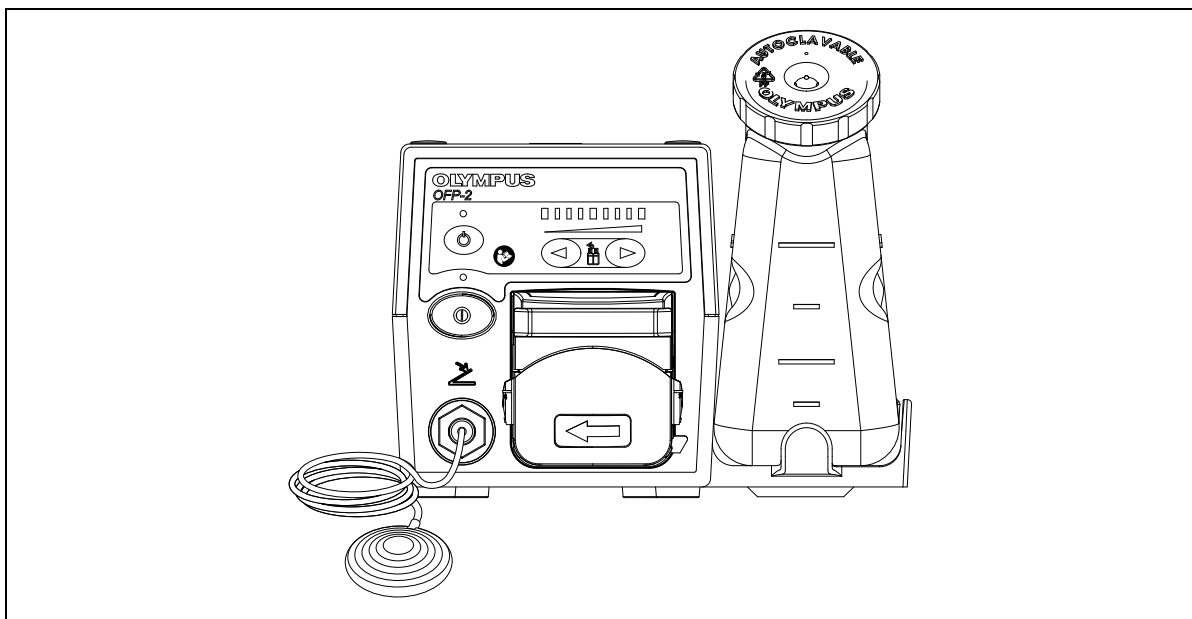

Figure 3.2
6. Insert the footswitch tube into the footswitch connection port on the front panel (Figure 3.2) and place the footswitch on the floor.